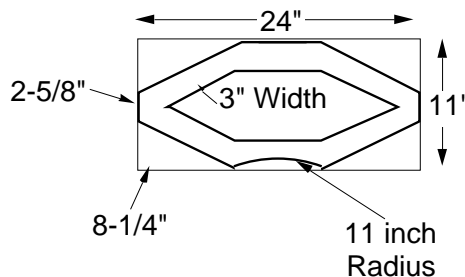

Figure 6
- B. Using the dimensions of Figure 6, lay out the cutting lines for the 11" x 24" rectangle.